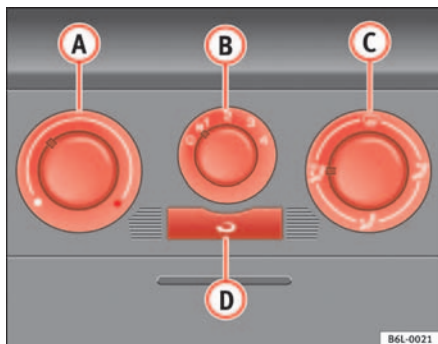

Fig. 84 On the dash panel: Heater controls
- Turn the temperature selector ⇒ fig. 84 ① anti-clockwise.
- Turn blower switch ⑦ to speed settings 1 -4.
- Set the airflow to the desired direction using air distribution control ③.
- Turn the temperature selector ⇒ fig. 84 ① clockwise to select the required temperature.
- Turn blower switch ⑦ to speed settings 1-4.
- Turn the temperature selector ⇒ fig. 84 ① clockwise to the maximum temperature.
- Turn the blower switch ⑦ to setting 4.
- Close outlet ③.
- Open and turn outlet ④ towards side windows.
- Turn the temperature selector ⇒ fig. 84 ① to the heating zone.
- Turn blower switch ⑦ to speed settings 2-3.
- Close outlets 3 (3).
- Open and turn outlets (4) towards side windows